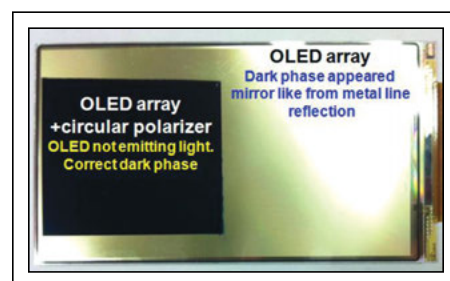

Fig. 4: An OLED panel is shown at left with a circular polarizer and, at right, without one.
Fig. 4: The comparison of the operational speed of the SG-driving and BA-driving circuit shows (a) equivalent-circuit schematics of a ratioed inverter (left) and its 11-stage ring oscillator (RO). Typical output waveforms include (b) an SG-driven and (c) BA-driven RO at the supply voltage $V_{DD} = 20\ \text{V}$. The SmartSpice circuit simulation results in output waveforms (solid lines) of the two types of ROs that match well with the experimental results (symbols). In (d), the circuit schematics of a pseudo-CMOS inverter (left) and its 7-stage RO. (e) shows the output frequency dependency on supply voltage V_{DD} for SG and BA pseudo-CMOS ring oscillators, with channel length $L = 10$ or $6\ \mu\text{m}$.^{9,10}
of electrodes with high reflection (e.g., Ag) as shown in Fig. 4, at the region without the polarizer, the OLED electrode reflects incident light and the off-state does not appear dark. As a result, contrast ratio suffers. As shown in Fig. 5(a), a circular polarizer consists of a linear polarizer and a $1/4 \lambda$ retarder film. A linear polarizer first allows only linearly polarized light passing through. The $1/4 \lambda$ retarder film then turns the linear waves